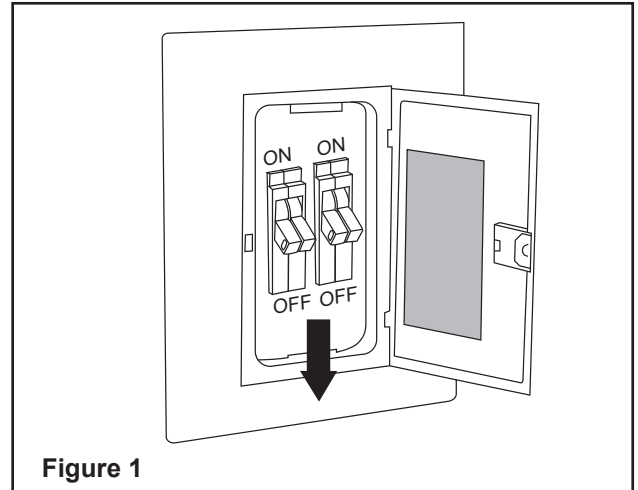

Figure 1
1. Turn off circuit breakers and wall switch to the fan supply line leads. (Figure 1)
- 1. Remove the canopy bottom cover (C) from the canopy (B) by turning the canopy bottom cover (C) counterclockwise.
Remove the mounting bracket (A) from the canopy (B) by loosening canopy mounting screws a half turn from the screw head. Next, turn the canopy (B) counterclockwise to remove the mounting bracket (A) from the canopy (B). (Figure 1)
1. Push the antenna wire through the mounting bracket (A) and insert the narrow end of the receiver (K) into the slide-on mounting bracket (A) until it rests on top of the ball/downrod assembly. (Figure 1)